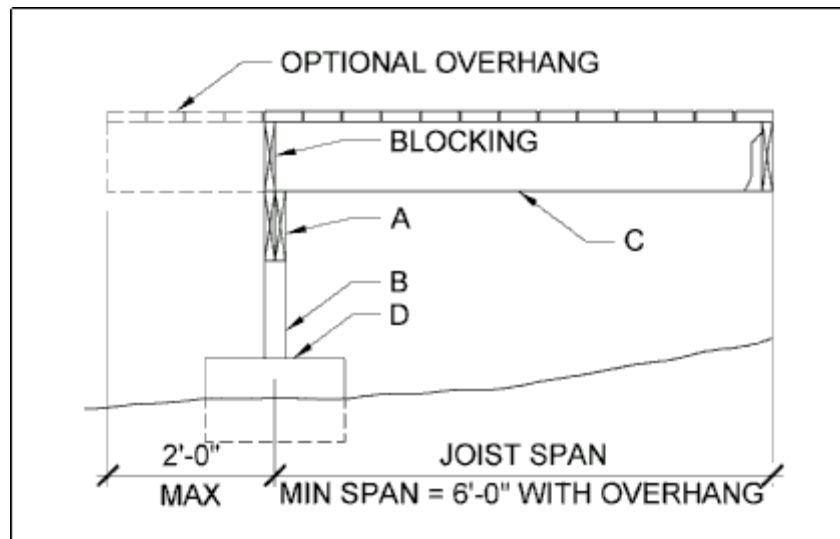

Figure 1 - Joist Span – Deck Attached At House
4. Determine how big and what configuration you want your deck. **Note:** The drawings contained in this document may indicate square or rectangular configurations; however, configurations can be diamond, trapezoidal, or other shapes as long as the longest spans are used to determine beam, joist, and footing sizes. The deck can have up to a two-foot maximum joist and/or beam overhang. See Figures 1, 2, and 3. Beams must be support on each end by a post and cannot be supported with beam hangers off the house. (Beams are identified as item “A”,
The span of a joist is measured from the centerline of bearing at one end of the joist to the centerline of bearing at the other and does not include overhangs. Maximum joist span lengths are noted in Tables 2 and 3. See Figures 1 and 2 for joist span types.